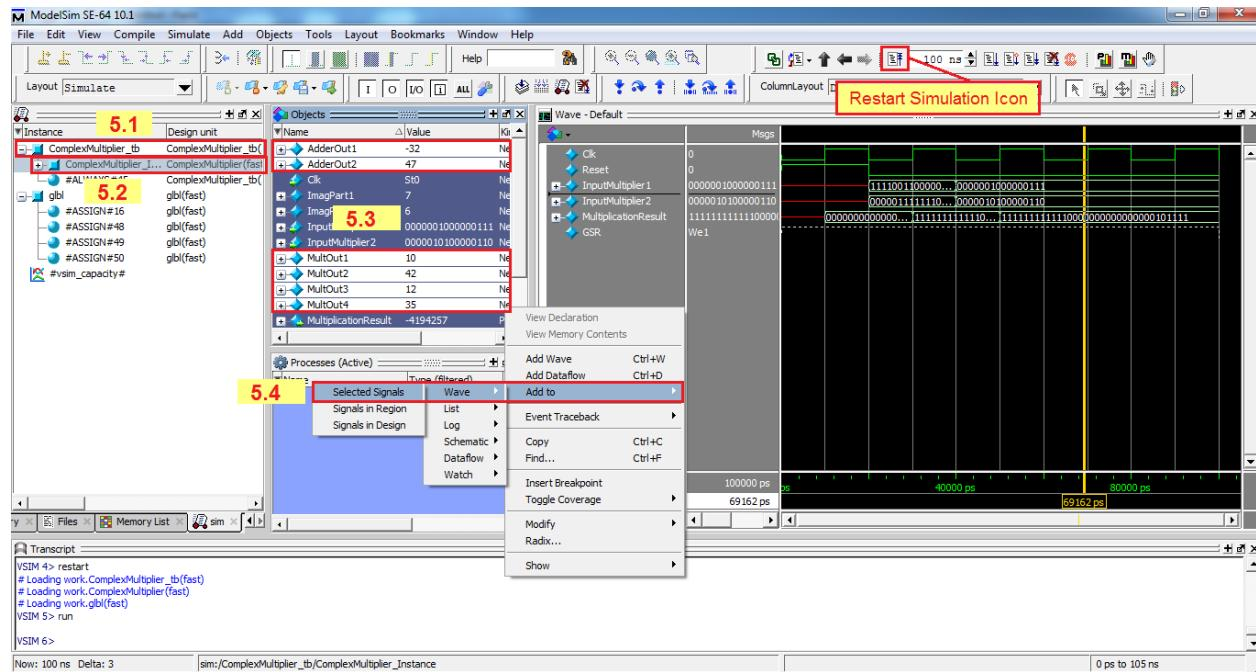

Figure 11.
5. Adding Signals to Wave Window (Figure 11)